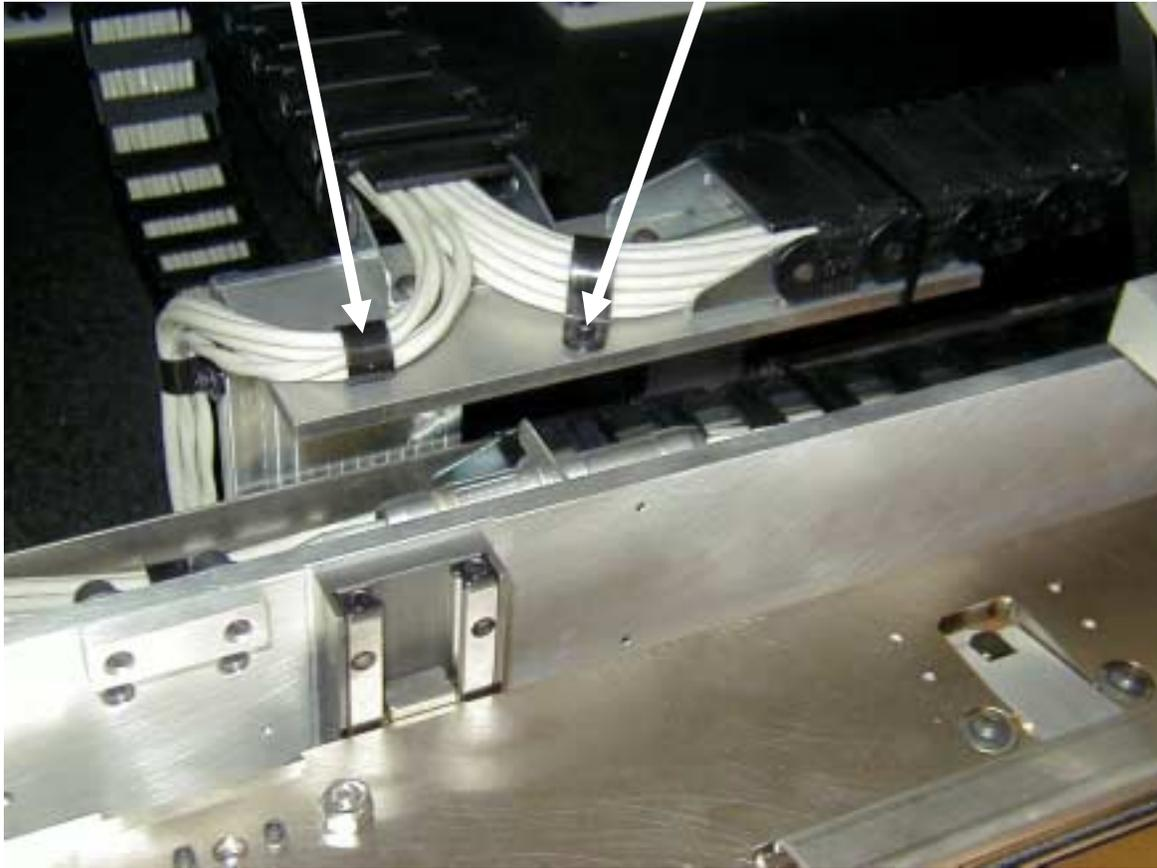

Figure 2.
- Using the 7/64" Allen Wrench, remove the screw in each of the clamps holding the two bundles of cables to the E-Chain Support. Leave the bundles of cables in their general position. Save the screws (see Figure 2).